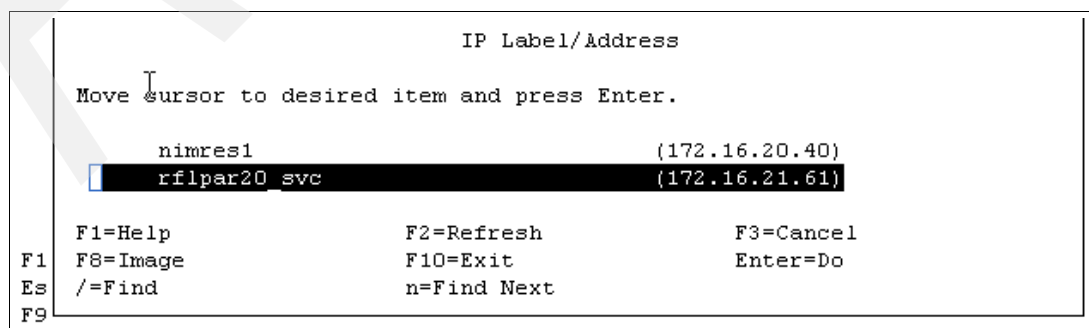

Figure A-9 Service IP address selection
1. Set up service IP. Type `smitty sysmirror`. Select **Cluster Applications and Resources** → **Resources** → **Configure Service IP Labels/Addresses** → **Add a Service IP Label/Address** → **Select Network** · **net_ether_01 (172.16.20.0/22)** → Select required service address and press Enter, as shown in Figure A-9.